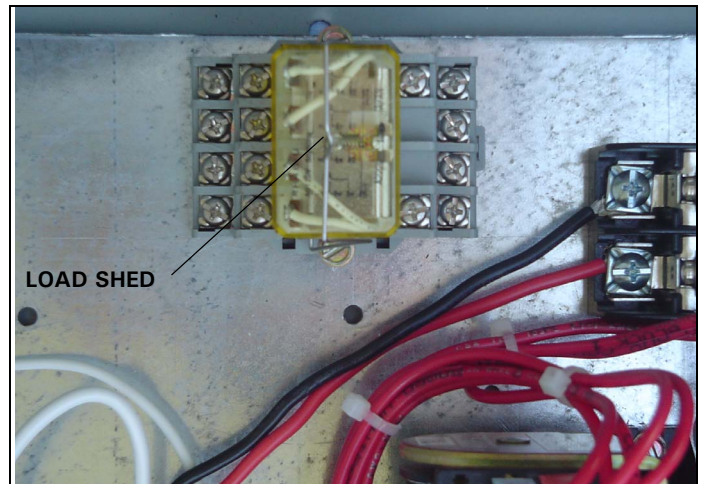
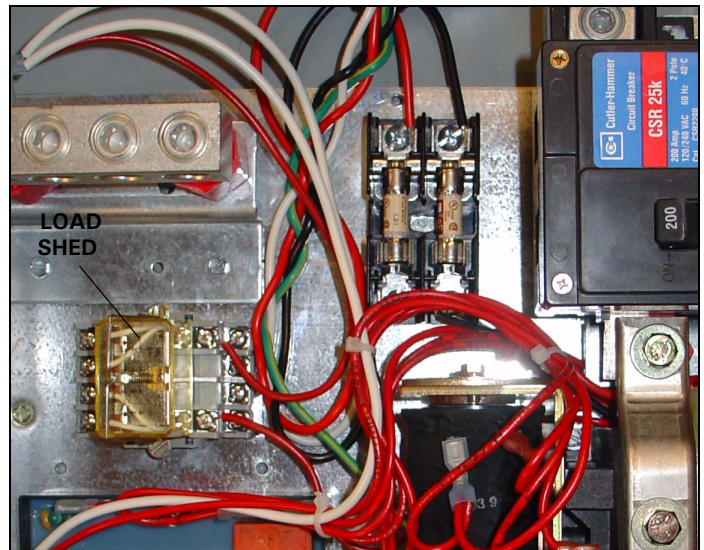

Figure 82. Load Shed Installed on the Base Plate of a Standard ATS
Figure 83. Load Shed Installed on the Base Plate of an SE ATS.
Step 1: Turn the utility (Source 1) power off and turn the generator (Source 2) control selector switch to the "OFF" position before attempting to install the load shed. Align the load shed with the existing holes near the top of the base plate, directly above the contactor, for standard ATSS (see Figure 82), and directly below the neutral bar for SE ATSS (see Figure 83). Secure the load shed to the base plate using the hardware supplied.